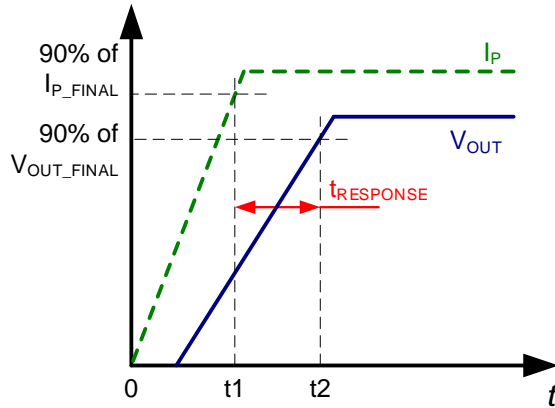

Figure 8: Response Time (t_{RESPONSE})
2. **t₂**: V_{OUT} reaches 90% of its final value, as it corresponds to the applied primary current (see Figure 8).